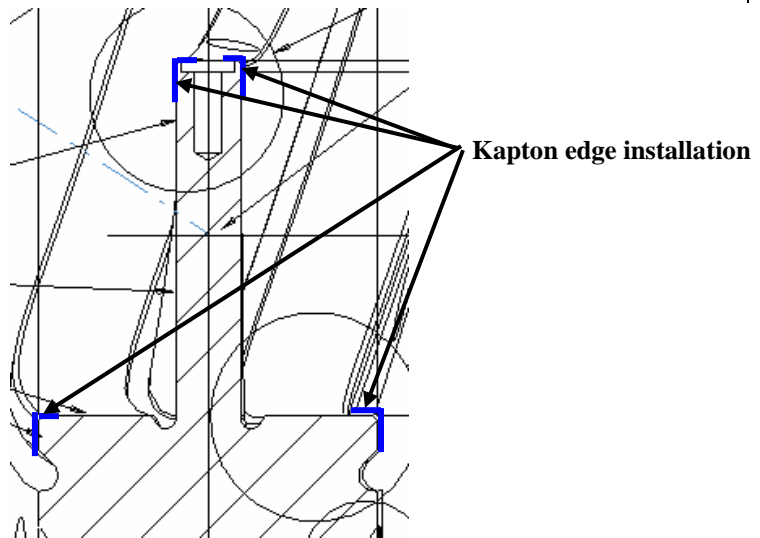

Figure 12-Kapton Edge Installation
Prior to mold releasing, install (1) layer of 0.00325 inch thick adhesive back Kapton tape onto the edges of the tee casting where the cladding bends around corners. [Figure 12-Kapton Edge Installation]